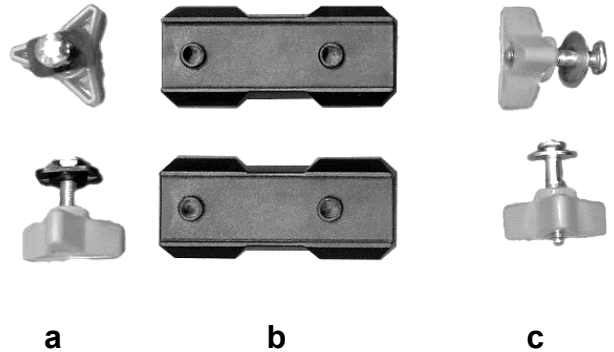

FIG. 1
1. Take the plastic spacer (b) and install it as shown in Fig. 1.